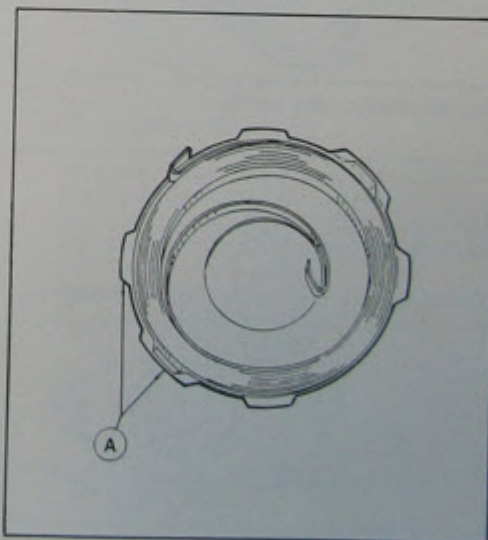

Fig. 17 Spring and container
- Once the damaged parts have been replaced, lubricate spring container with soft grease (see Fig. 17) and proceed with reassembly.